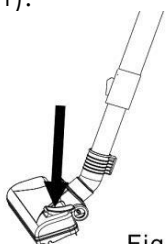

Fig. 12
**Floor Brush:** The floor brush can be used for hard floors and carpets. Use the switch located on top of the brush to adjust the brush to the type of floor you are cleaning. Lower the brush for bare floors, raise it for carpets (Fig. 12).